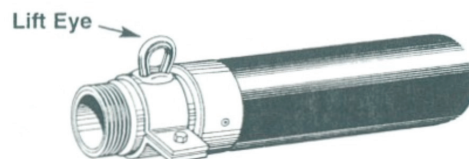

Figure 2
2. Hose assemblies should never be lifted by the safety clamp and chain. The assembly should always be lifted by the lift eye clamps (see Figures 2 & 3).
3. Attachment of a set of lift eye clamps to the hose end coupling to safely lift and move a heavy decoking hose assembly is a necessity to avoid hose kink damage. A set of lift eye clamps can be obtained on special order (see Figure 2)